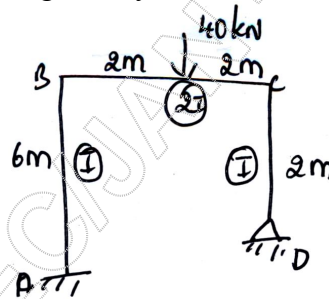

Fig.Q.4
- 4 Analyze the rigid frame shown in Fig.Q.4 by force transformation method. (20 Marks)